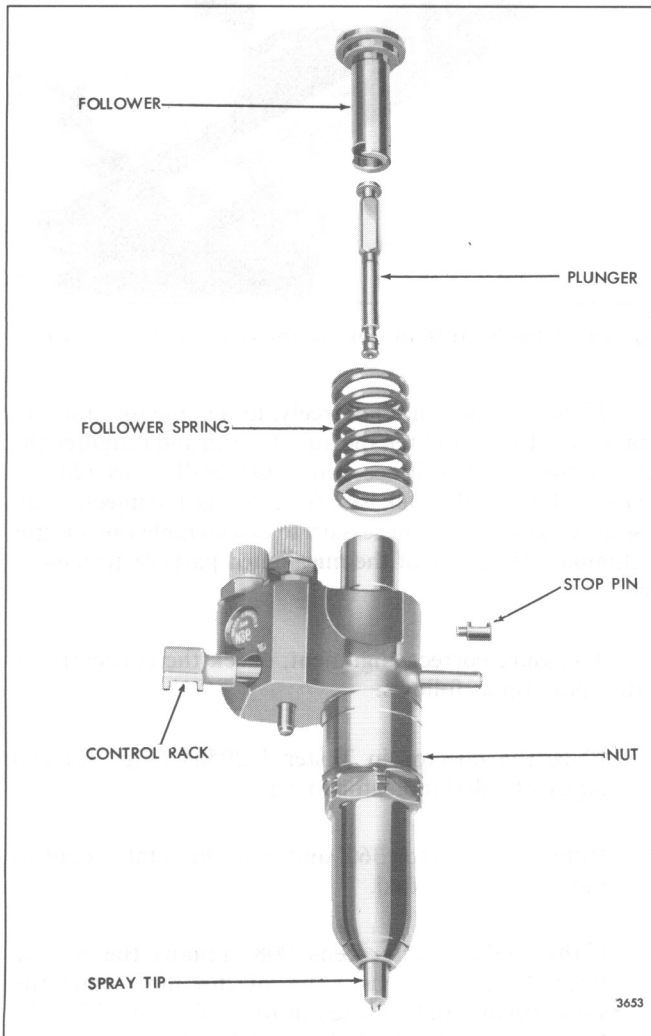

Fig. 34 - Injector Plunger, Follower and Relative Location of Parts
26. Refer to Fig. 34 and slide the head of the plunger into the follower.